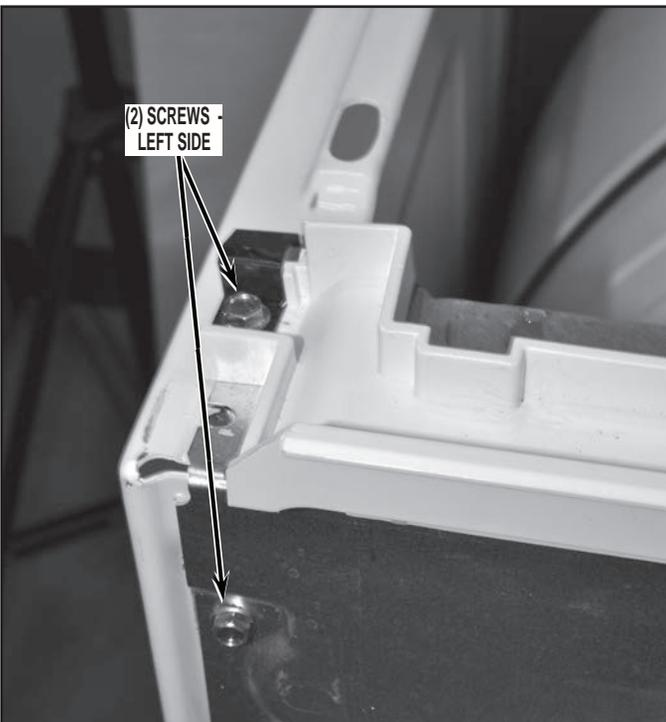

FIGURE 10A
13. Next remove console mounting bracket by removing two (2) screws securing bracket to cabinet left side panels, two (2) screws from right side panel and one (1) screw from central control bracket. Slightly lift assembly and remove from dryer. See *Figure 10A and 10B*.